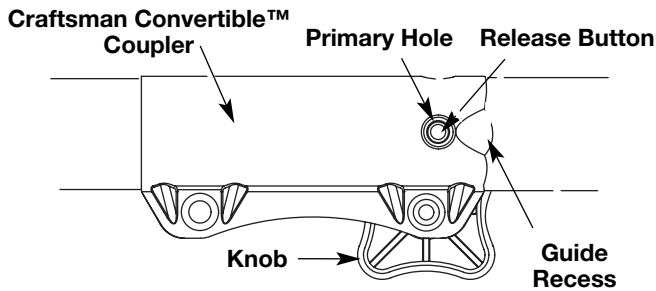
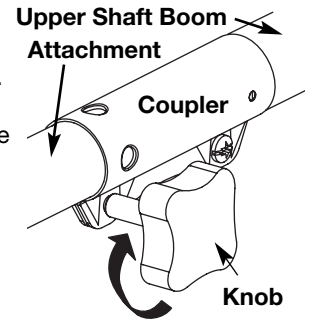

Fig. 9
Fig. 10
3. While firmly holding the attachment, push it straight into the coupler until the release button (Fig. 9) snaps into the primary hole (Fig. 9). The primary hole is on the opposite side of the coupler from the knob (Fig. 9). Align the release button with the Guide Recess (Fig. 9) to help installation.
4. Turn the knob clockwise to tighten (Fig. 10).
CAUTION: Lock the release button in the primary hole (Fig. 9) and securely tighten the knob (Fig. 10) before operating this unit.
3. Press and hold the release button (Fig. 9).
4. While firmly holding the upper shaft boom (Fig. 10), pull the attachment out of the coupler.
CAUTION: Before operating this unit, be sure that the release button is fully snapped into the primary hole (Fig. 9), and that the knob (Fig. 10) is securely tightened.